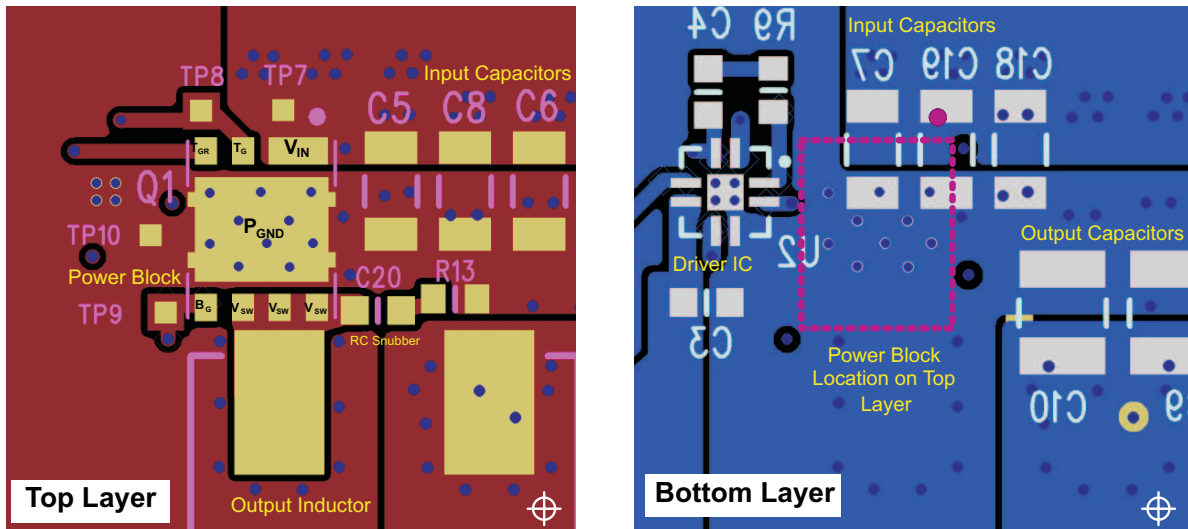

Figure 34. Recommended PCB Layout (Top View)
- The placement of the input capacitors relative to the power block's VIN and PGND pins should have the highest priority during the component placement routine. It is critical to minimize these node lengths. As such, ceramic input capacitors need to be placed as close as possible to the VIN and PGND pins (see Figure 34). The example in Figure 34 uses  $6 \times 10\text{-}\mu\text{F}$  ceramic capacitors (TDK Part C3216X5R1C106KT or equivalent). Notice there are ceramic capacitors on both sides of the board with an appropriate amount of vias interconnecting both layers. In terms of priority of placement next to the power block, C5, C7, C19, and C8 should follow in order.
- In the event the switch node waveform exhibits ringing that reaches undesirable levels, the use of a boost resistor or RC snubber can be an effective way to reduce the peak ring level. The recommended boost resistor value will range between  $1\ \Omega$  to  $4.7\ \Omega$  depending on the output characteristics of driver IC used in conjunction with the power block. The RC snubber values can range from  $0.5\ \Omega$  to  $2.2\ \Omega$  for the R and  $330\ \text{pF}$  to  $2200\ \text{pF}$  for the C. Refer to *Snubber Circuits: Theory, Design and Application* (SLUP100) for more details on how to properly tune the RC snubber values. The RC snubber should be placed as close as possible to the Vsw node and PGND see Figure 34. (1)
- Use the smallest drill size allowed in your design. The example in Figure 34 uses vias with a 10-mil drill hole and a 16-mil capture pad.